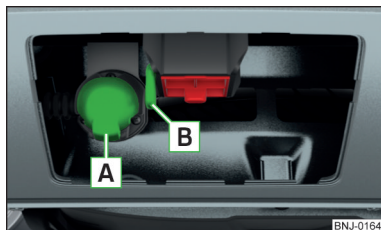

Fig. 162
- Insert the trailer cable into the 13-pin socket **A** » Fig. 162.